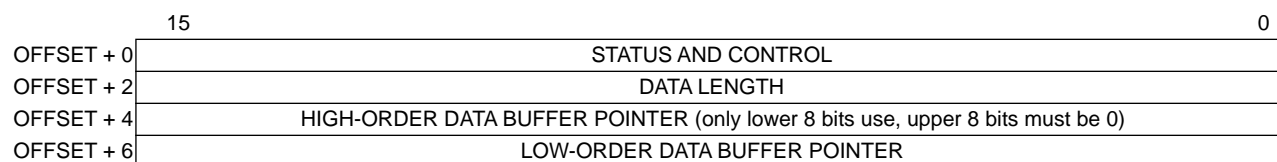

Figure 4-1. SCC Buffer Descriptor Format
Data associated with each SCC channel is stored in buffers. Each buffer is referenced by a buffer descriptor (BD). BDs are located in each channel's BD table (located in dual-port RAM). There are two such tables for each SCC channel: one is used for data received from the serial line; the other is used to transmit data. The format of the BDs is the same for each SCC mode of operation (HDLC, UART, BISYNC, and transparent) and for both transmit or receive. Only the first field (containing status and control bits) differs for each protocol. The BD format is shown in Figure 4-1.